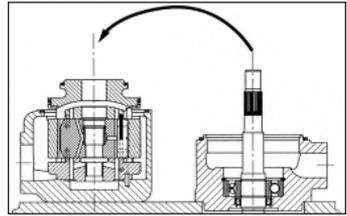

Fig. 10
3. Assemble the front cap ass'y on the housing & cartridge ass'y (**Fig. 10**).